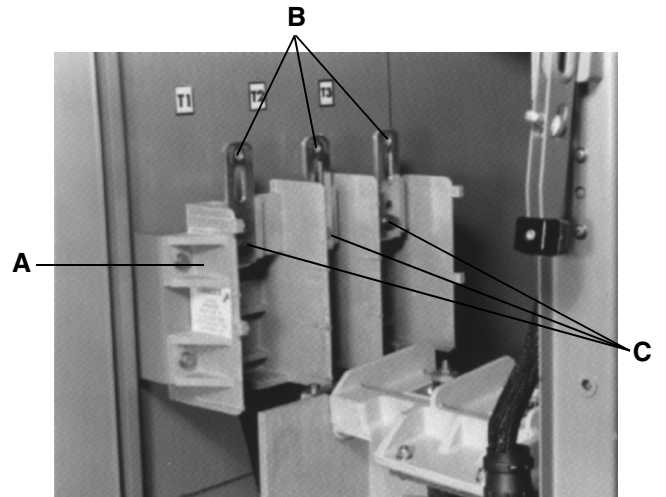

Figure 10 Load Terminals
Load terminals are located in the load cable connection box (Fig. 10, item A), mounted on left side wall of vertical section. To connect load cables:
*NOTE: Load cable terminal pads (Fig. 10, item B) point up for connection to load cables entering from top of controller. If load cables enter from bottom, reposition terminal pads to point down by removing bolts (Fig. 10, item C), rotating pads 180° clockwise and reinstalling bolts.*